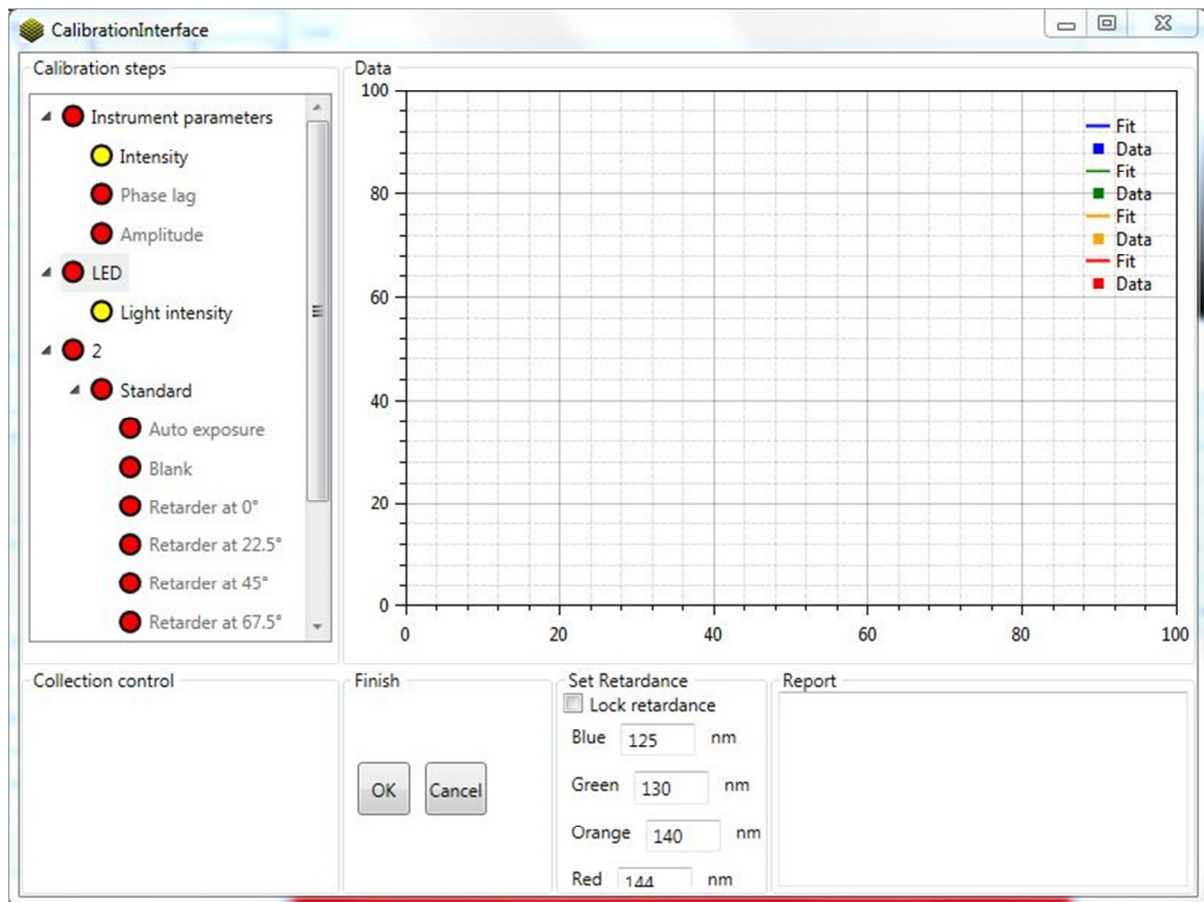

Figure 22.
3. Select Calibration from the Tools dropdown menu on the menu bar. You should see a screen similar to Figure 22.